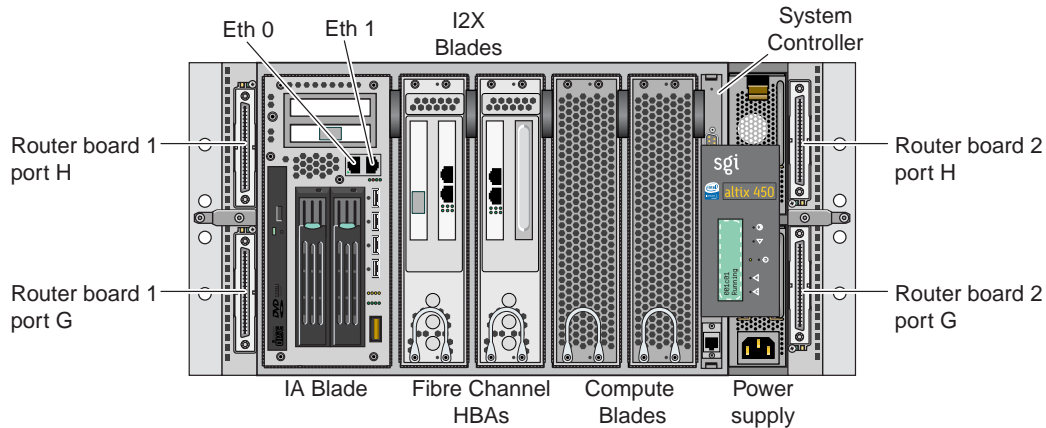
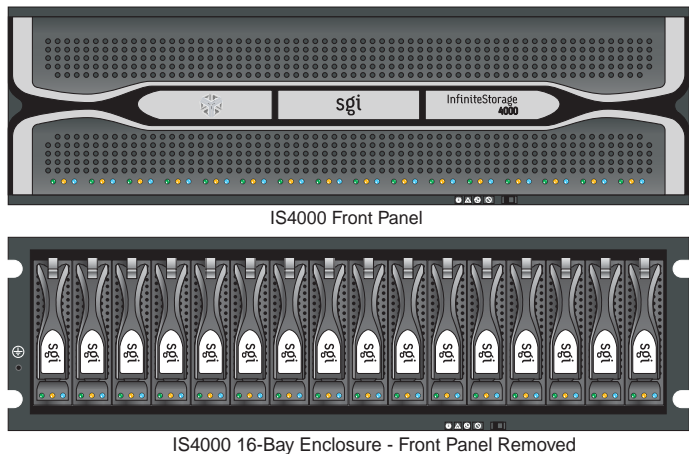

Figure 2-5 SGI Altix 450 Data Manager IRU - Front View
Figure 2-6 SGI InfiniteStorage CUBE Disk Enclosure
SGI Altix ICE expansion racks can contain a wide variety of computer equipment and are typically air cooled. The SGI InfiniteStorage CUBE system (refer to Figure 2-5 and Figure 2-6) is the storage system used for disk storage on SGI Altix ICE systems.
The storage system consists of an SGI Altix 450 server as the NAS data manager and SGI InfiniteStorage 4000 disk subsystems connected via Fibre Channel (FC) network. The SGI Altix 450 data manager connects to the SGI Altix ICE network topology via two 4x SDR IB InfiniBand ports. The SGI InfiniteStorage CUBE system uses a 16-bay disk enclosure (refer to Figure 2-6). The disk enclosure is a high-bandwidth RAID FC storage system.